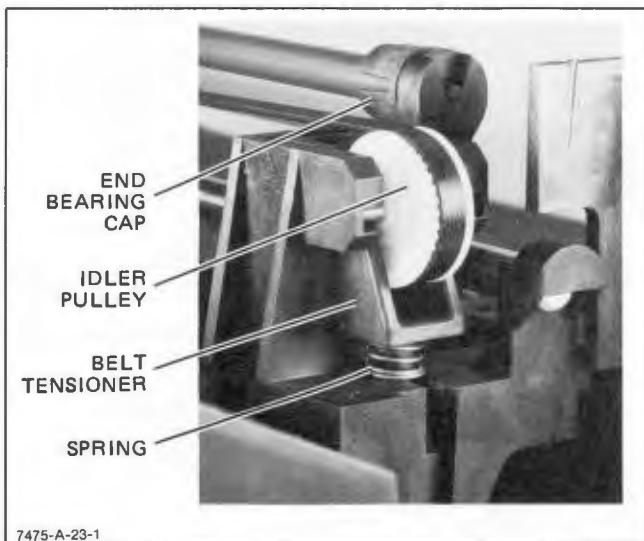

Figure 8-22. Pen Drive Belt Tensioner
- Remove the belt tensioner by pressing downward on the tensioner and sliding the tang at the bottom out of the slot in the chassis. See Figure 8-22.
- Remove the end bearing cap while sliding the pen lift bar to the right and out of the carriage assembly. See Figure 8-22. (To replace the end cap on the lift bar, merely slide the cap onto the bar.)